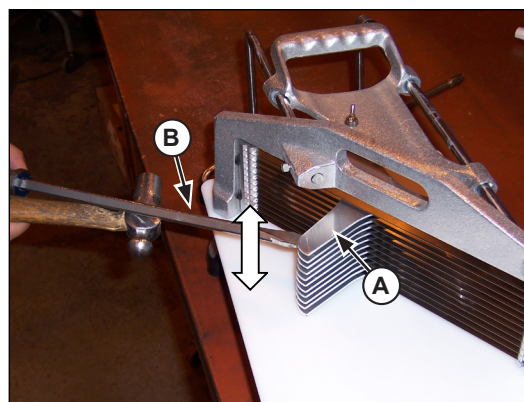

Figure 1. Pusher Head Adjustment Between the Blades.
1. Carefully insert a screwdriver (B) between the slots in the Pusher Head Assembly (A). Gently tap on the screwdriver (B)(up or down) to alter the location of the Pusher Head Fingers so the slide effortlessly through the blades. See Figure 1.